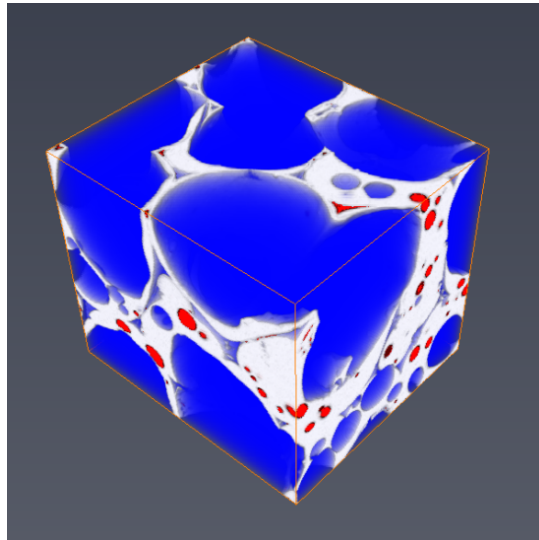

Figure 20.7: Connected Porosity vs. Unconnected Porosity
- To visualize the connected porosity vs. unconnected porosity: attach a *Subtract Image* module to the output of the *Auto Thresholding* module and to the output of the *Axis Connectivity* module. This will create a label representing the unconnected porosity (floating void). Attach a *Volume Rendering* to this data, and use the seismic colormap. This colormap will colorize in blue the data at 0 (connected porosity) and in red the data at 1 (unconnected porosity) Set the opacity to 0.2: it allows better visualization of the solid phase. (see Figure 20.7).